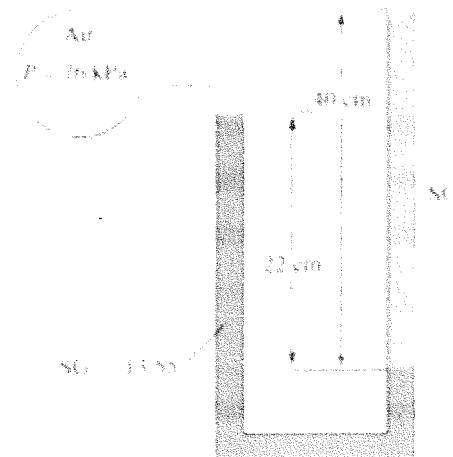

Figure-2
7. Consider a double - fluid manometer attached to an air pipe shown in Figure-2. If the specific gravity of one fluid is 13.55, determine the specific gravity of the other fluid for the indicated absolute pressure of air. Take atmosphere pressure to be 100 kPa.